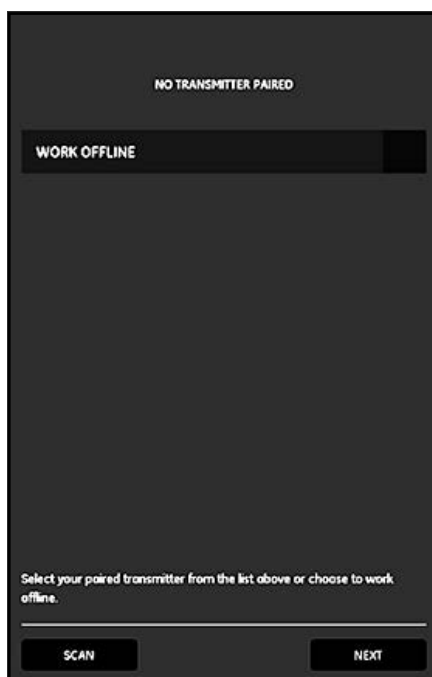

Figure 61: Initial Transmitter List
5. After the APP finishes loading, the default Transmitter list is displayed. During initial installation, this list is empty (see *Figure 61* below).